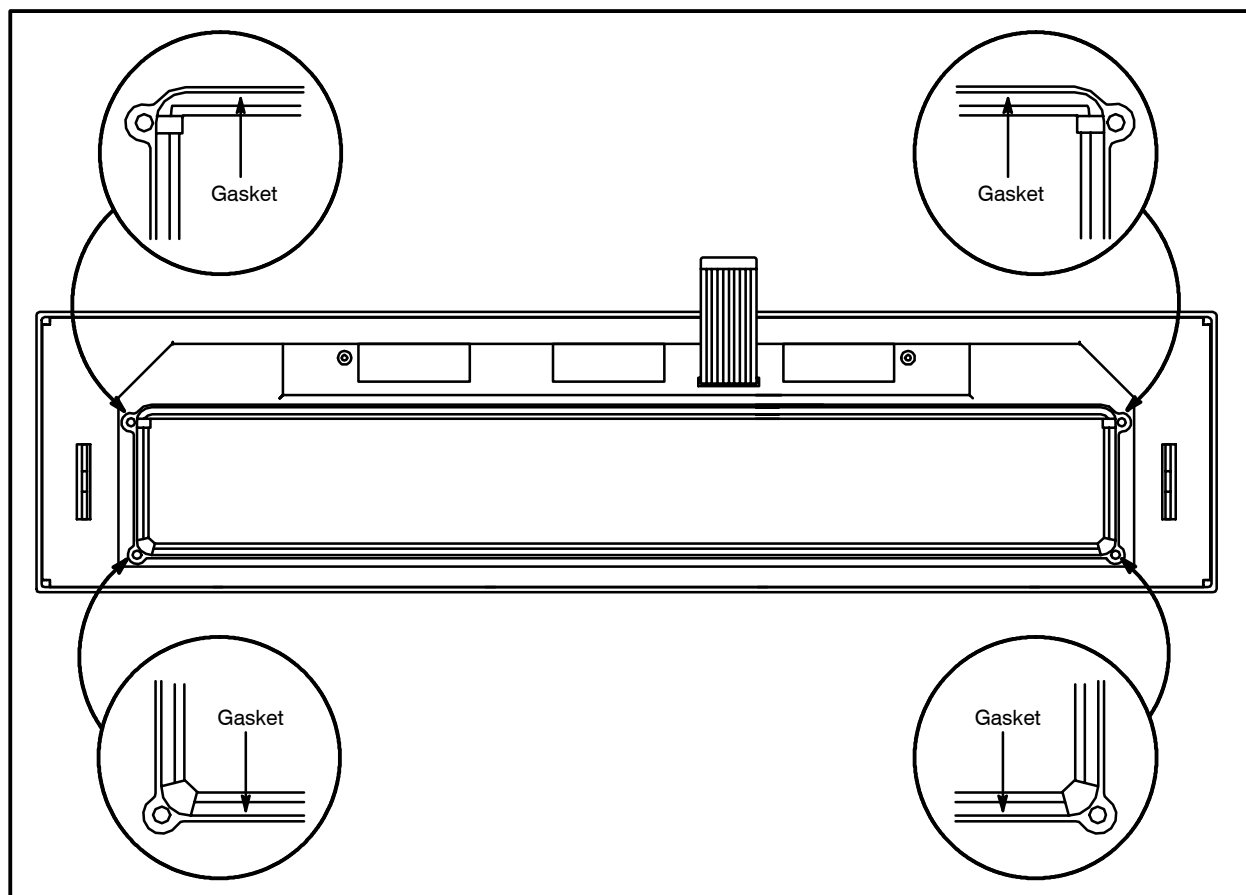

FIGURE 3
8. Install the new gasket in the bezel. See FIGURE 3 for proper gasket placement.